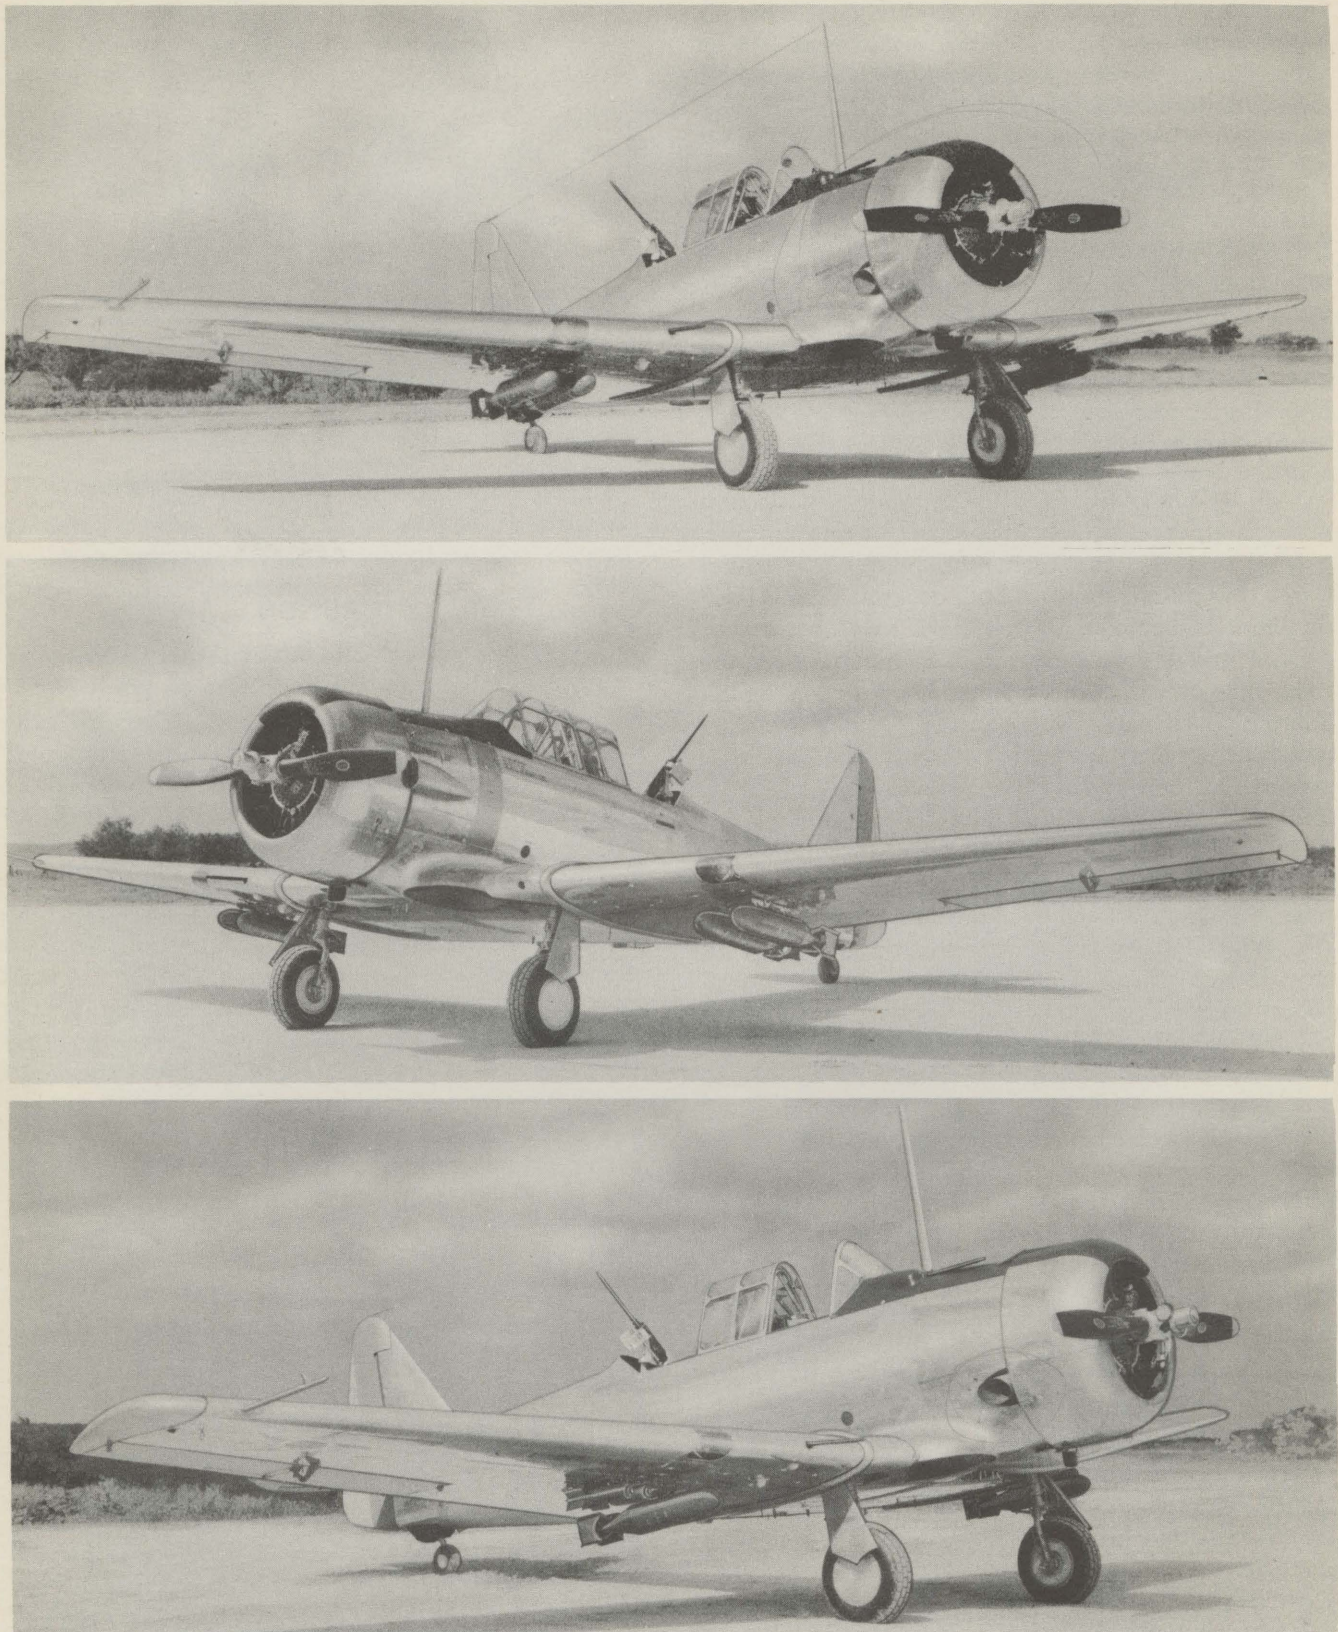

FIG. 8—AIRPLANE WITH ARMAMENT EQUIPMENT INSTALLED
2. GUNNERY EQUIPMENT (See figure 8.)